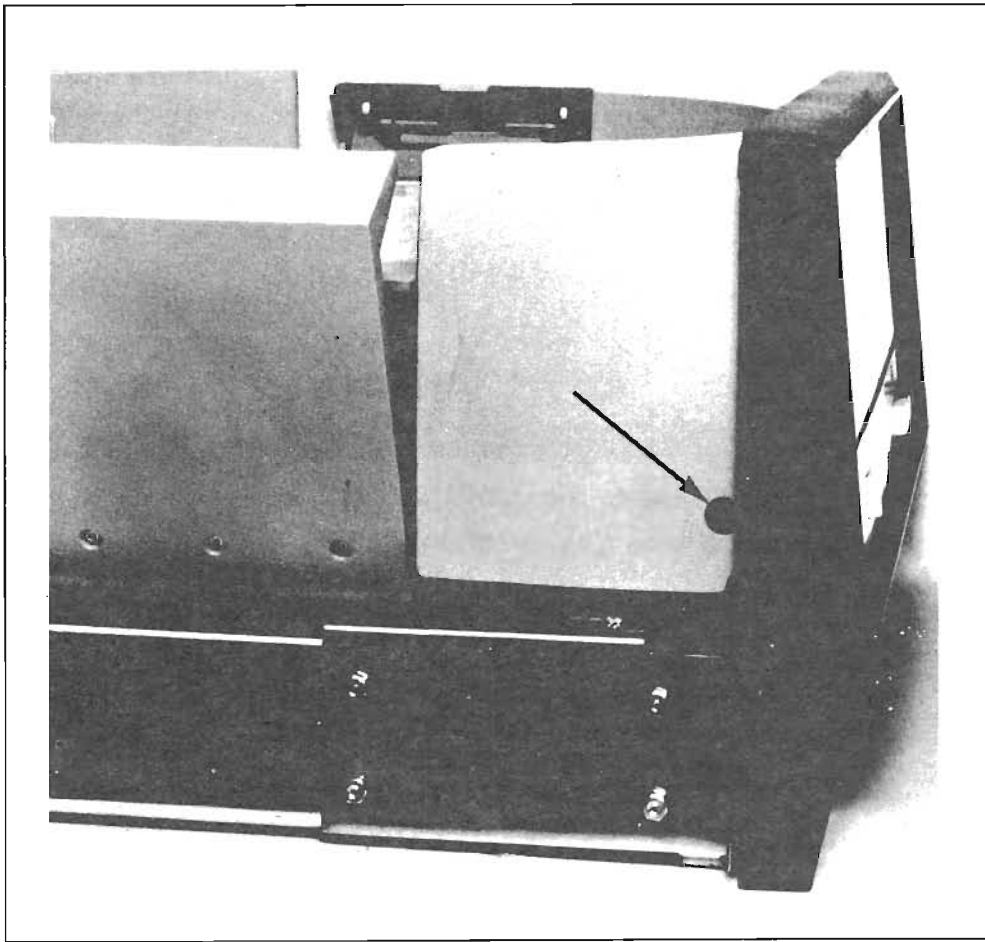

FIGURE 4-13 FRONT PANEL HOLDING SCREW ACCESS
5. Front-panel components are accessible for removal or replacement by loosening the two hexagon socket screws which hold the front panel in position. Access to these screws is through two holes, one on each side of the bowl, as shown in Figure 4-13. To permit the front panel to swing freely, two lower screws, one on each side may require loosening. These screws are located between the front panel and the lower section of the slide inner member. The front panel now swings down partially, giving access to components mounted on the rear of the front panel. Some components mounted on the pan or baseplate are also accessible by lowering the front panel.